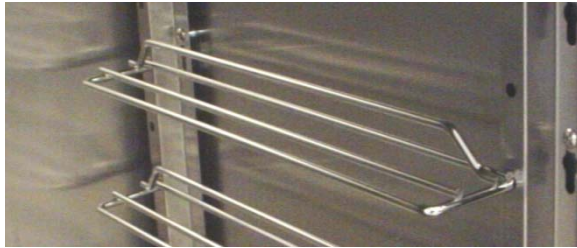

Fig. 1
5. Install tray slides in the cabinet. Make sure the hook on the end of the tray slide is up. (Fig. 1)